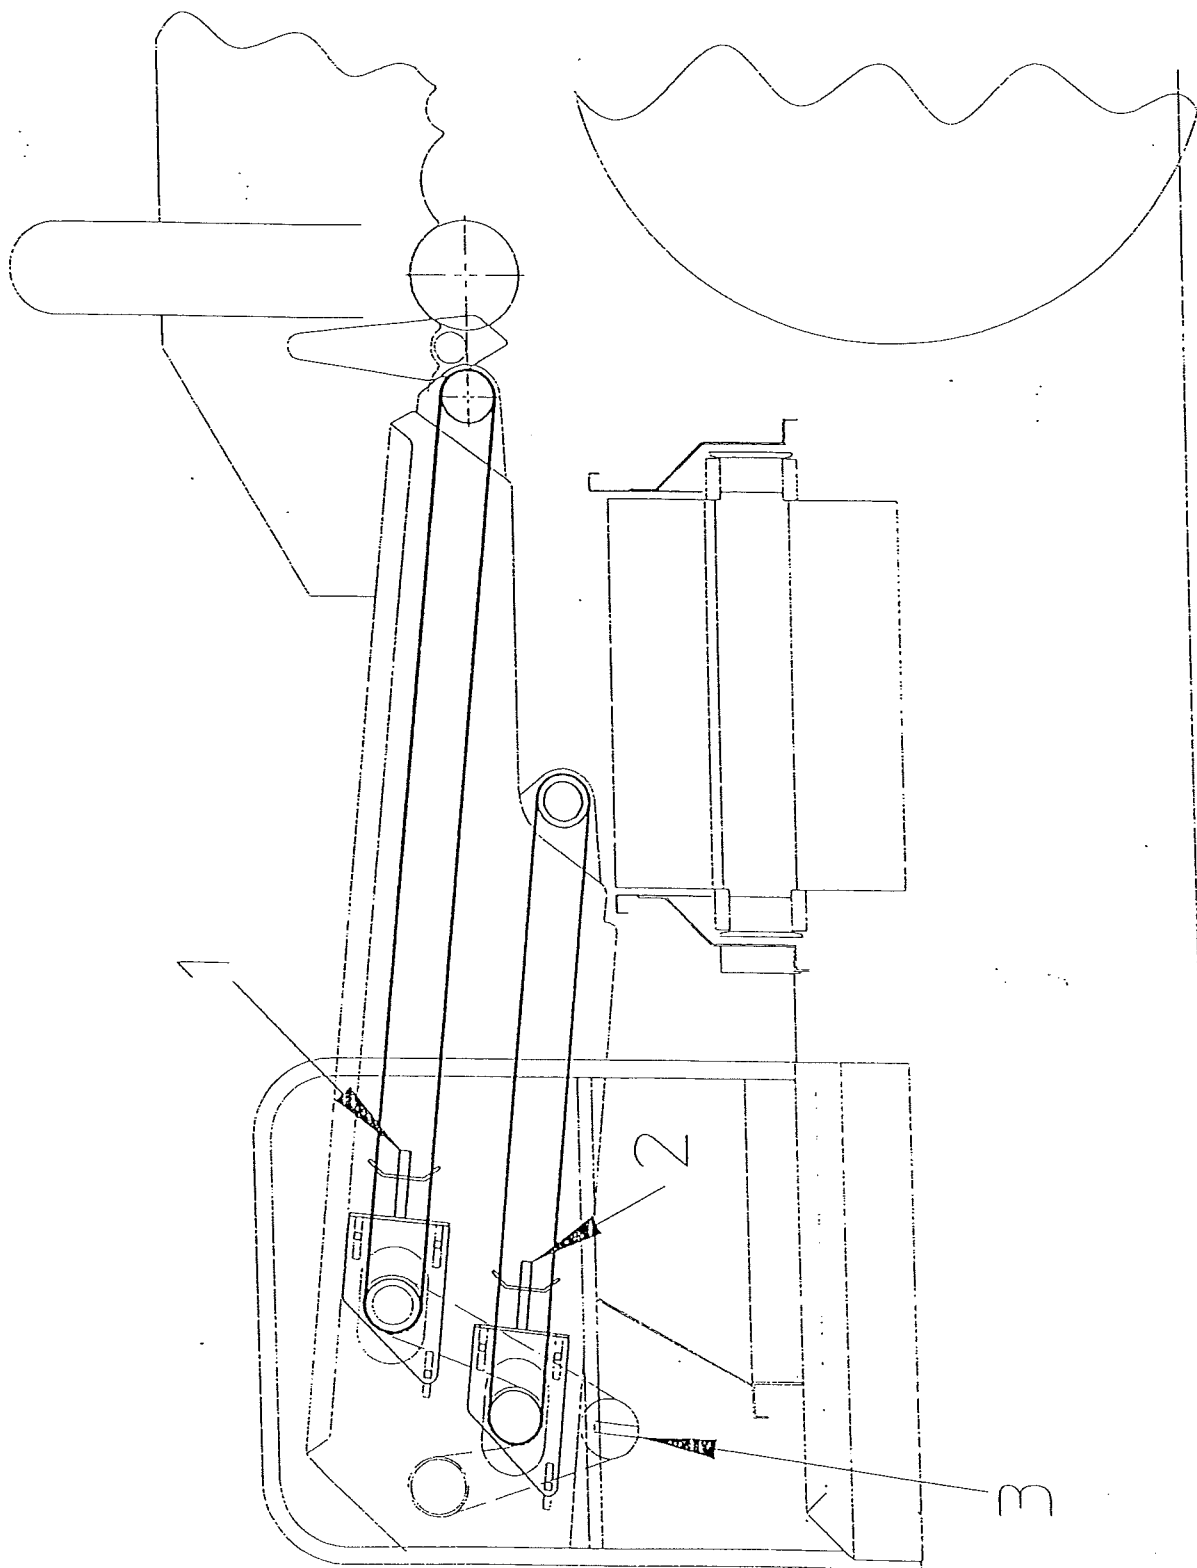

Fig 12.2
A small picking off belt, (POB), capable of carrying 2 pickers, one on each side (fig 12.2). Comprising of a top belt from which the pickers sort through the crop, and a lower belt which returns the crop to the cart elevator. The unit is hydraulically driven and can be controlled for speed by a flow control valve mounted on the right hand side of the unit. A graduated knob mounted on top of the flow valve controls the speed, a higher number giving a higher speed. A small electrical switch box gives emergency stop facility and communication to the driver. The box has a magnetic foot and can be mounted in a convenient position to the pickers.
The tension of the picking off belts is maintained by adjusting the rear rollers of each belt. By removing the guards belt adjusters, on each side of the table can be reached (fig 12.2 item 1 and 2). Ensure that the belts are tensioned evenly on both sides of the table so that the belts run correctly.
The tension of the picking off table drive chain can be adjusted on the right hand side of the table. By removing the right guard the drive chain is exposed. The lower idler sprocket is mounted in a slot, by slackening the clamp bolt, the drive chain can be adjusted (fig 12.2 item 3)